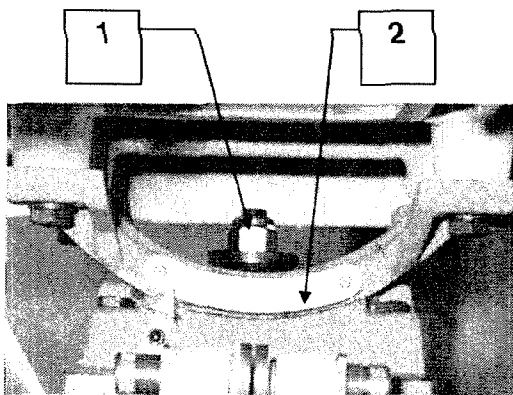

Figure 5.8
5.8 Setting the Table Cant Adjustment (Figure 5.8)